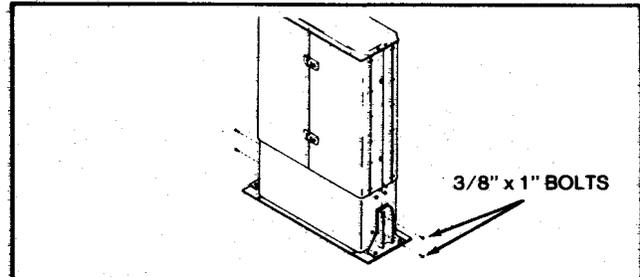

Fig. 18h
- (2) Position the cabinet over the cables and onto the mounting ring.
- (3) Secure the support legs to the side column of the cabinet with the four 3/8 x 1 inch bolts provided. (See Fig. 18h.)